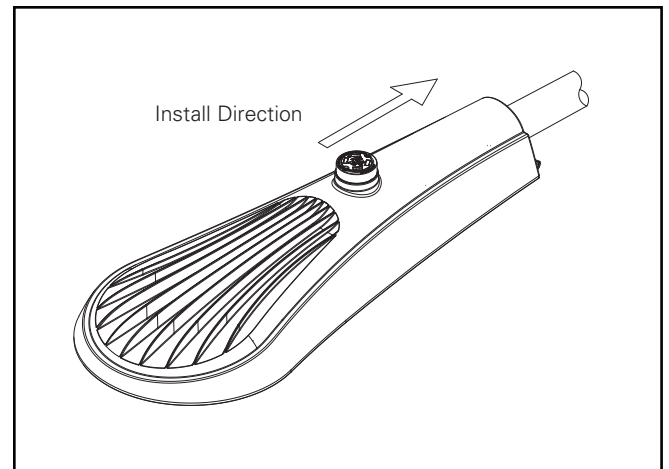

Figure 4.
4. Lift the housing into place and position end of mounting arm onto leveling steps so that housing is level. Care must be taken so arm does not inadvertently strike internal components. (Figure 4.)